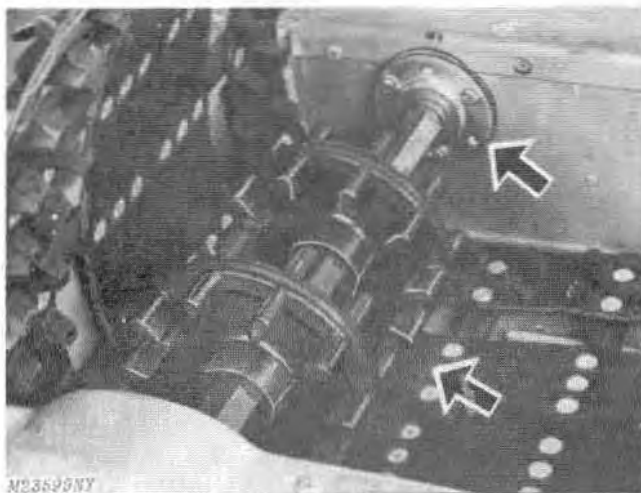

Fig. 2-Drive Wheels
5. Move drive wheels toward center of shaft, Fig. 2.